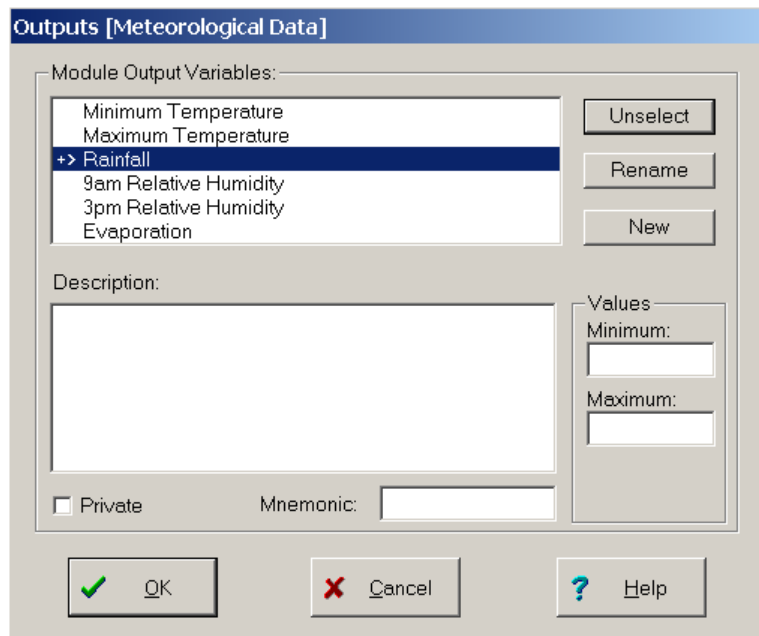

Figure 3.2 Outputs (Meteorological Data) Variables List Box
15. Select **'Outputs'** to open the **'Outputs [Meteorological Data]'** selection window (figure 3.2)